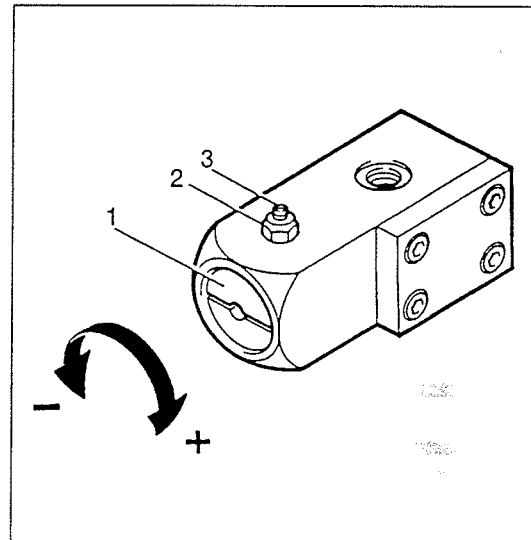

Fig. 10 Pressure maintaining valve
The pressure maintaining valve (Fig. 10) is adjusted at the factory to the required pressure and normally does not require regular maintenance or readjustment. In case of readjustment becoming necessary, loosen jam nut (2) and set screw (3). Adjust screw (1) to the required pressure using a suitable screw-driver.